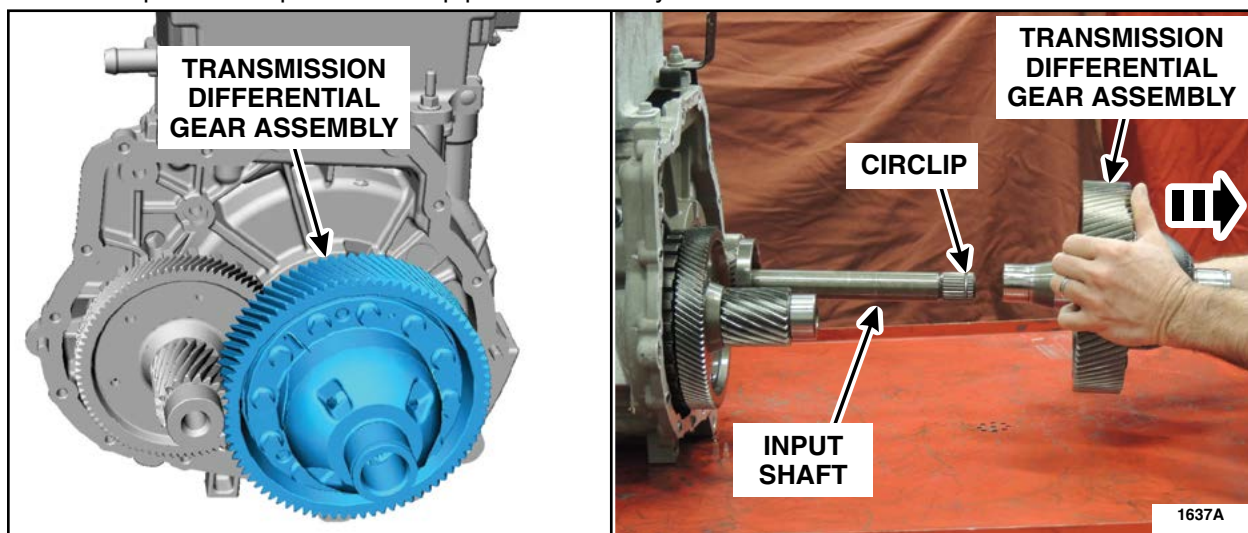

FIGURE 1
2. Replace the transmission differential gear assembly. Please follow the WSM procedures in Section 307-01. See Figure 1.
- To remove the transmission differential gear assembly, pull outward until the input shaft reaches end of travel. Keep pulling outward until the circlip disengages, releasing the transmission differential gear assembly from the input shaft. See Figure 1.